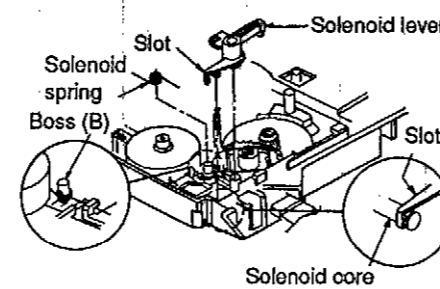

Fig.3
5. Install the solenoid lever. (See Fig.3.)
6. Install the solenoid spring to the boss (B). (See Fig.3.)